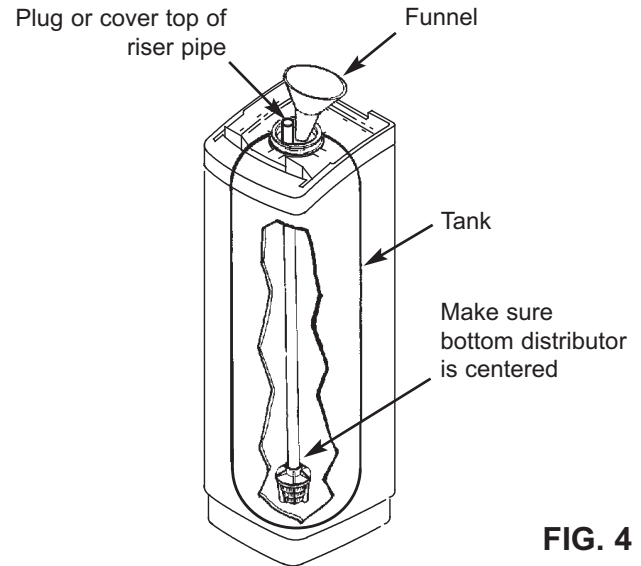

FIG. 4
6. Cover the top end of the distributor riser pipe with a clean rag, to keep gravel and media out (See Fig. 4).